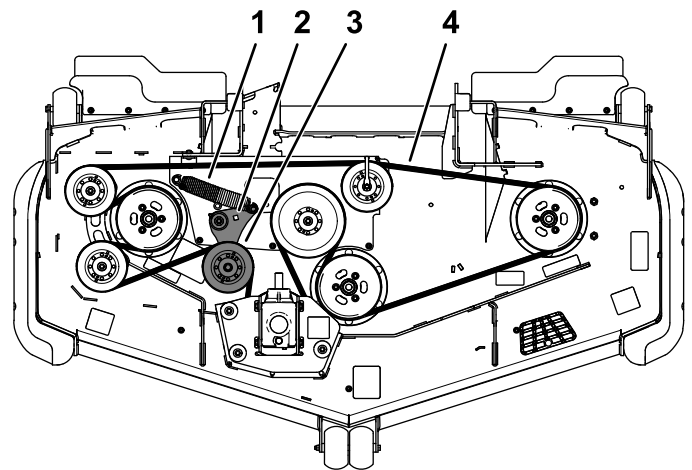

Figure 60
- Use a ratchet in the square hole in the idler arm to remove tension on the idler spring (Figure 60).
- Install the new belt around the mower pulleys (Figure 60).
square hole, install the belt around the idler pulley (Figure 60).